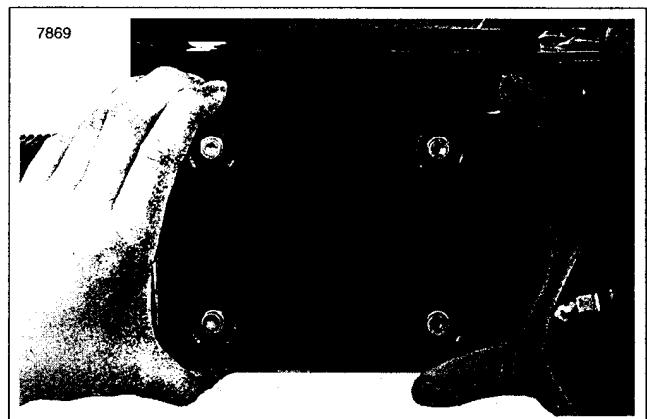

Figure 8-10. Removing/installing Side Cover
6. See Figure 8-10. Grasp both sides of cover and push firmly into top plate. Verify side cover is firmly attached to top plate.